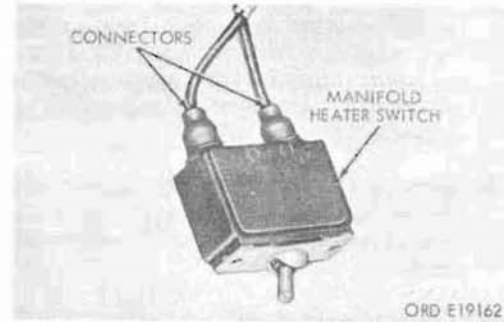

Figure 184. Manifold preheater switch - removed
a. Removal (Fig. 184).
- (1) Remove screws securing manifold preheater switch to the dash panel, and remove switch.
- (2) Disconnect cable connectors from manifold preheater switch.
b. Installation (Fig. 184).
- (1) Hold switch in position and connect two cable connectors to switch terminals.
- (2) Install switch on dash panel with two external-teeth lockwasher screws.